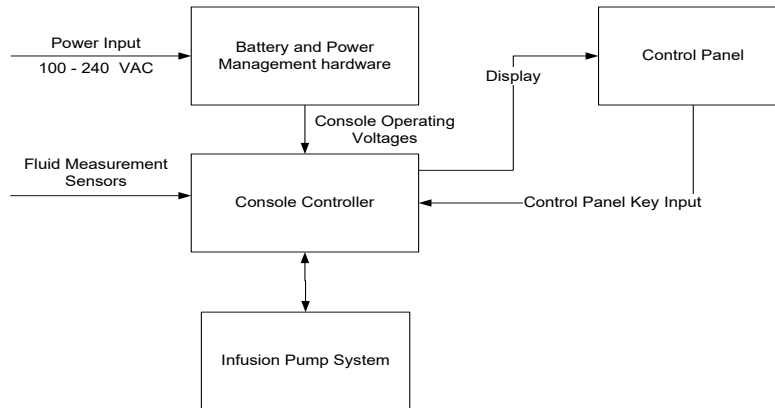

Figure 2 Block Diagram of the RG Console Hardware Modules
- The main components of the RG console are the Console Controller, the Power Manager System, the Control Panel Display and the Infusion Pump System. Figure 2 represents a simplified block diagram of the RG console.
- The RG console hardware design includes the electronics chassis, enclosures and mounting hardware also referred to the “mechanical package”. The Console modules described in the RG block diagram (Figure 2) are contained within the enclosure.